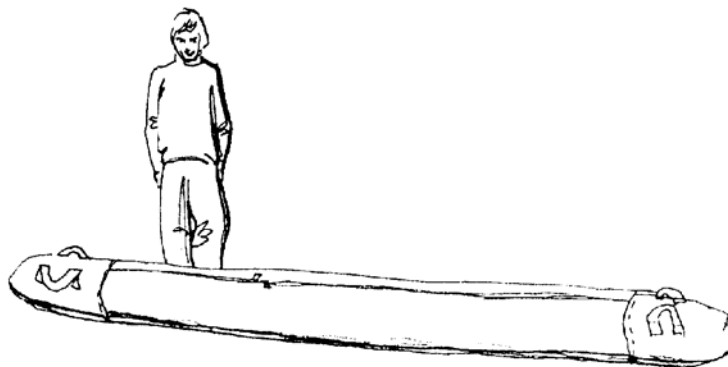

Fig. 8
2.2.1. With the glider in the bag (6 meters long) lay the glider on the ground (Fig. 8).